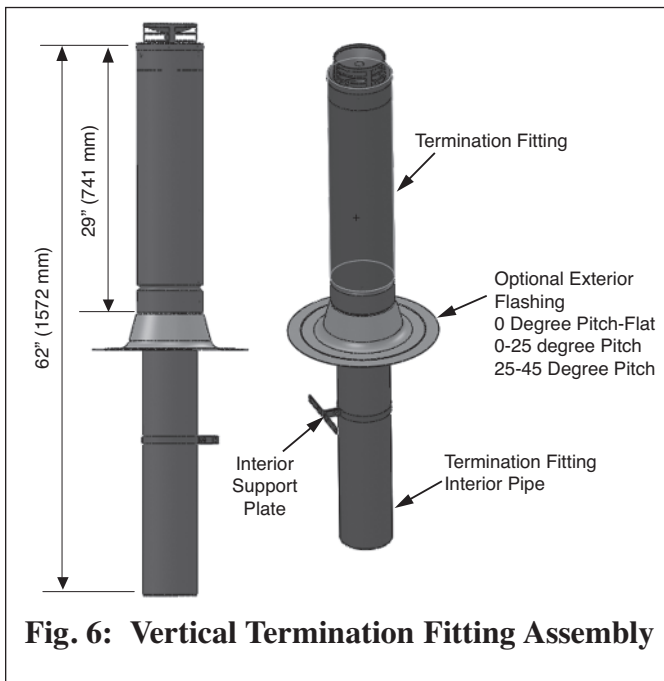

Fig. 6: Vertical Termination Fitting Assembly
- The termination fitting is secured to the exterior flashing plate using an interior support plate as shown in Fig. 6.